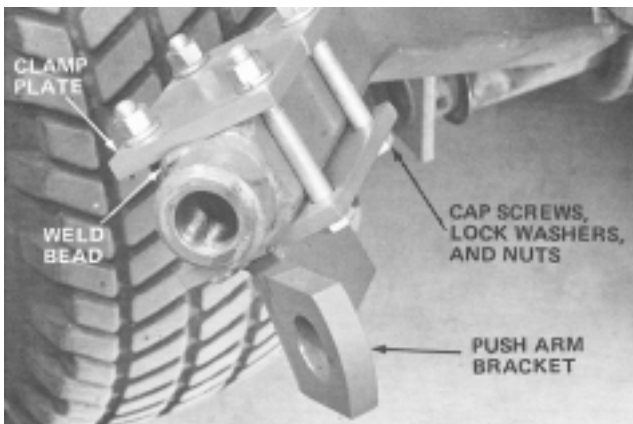

Figure 2
4. Install clamp plate and push arm bracket on right side push arm with four capscrews, lockwashers and nuts (Fig. 2).
**Note:** Clamp plate and push arm bracket must contact bead (Fig. 2) at front of push arm.